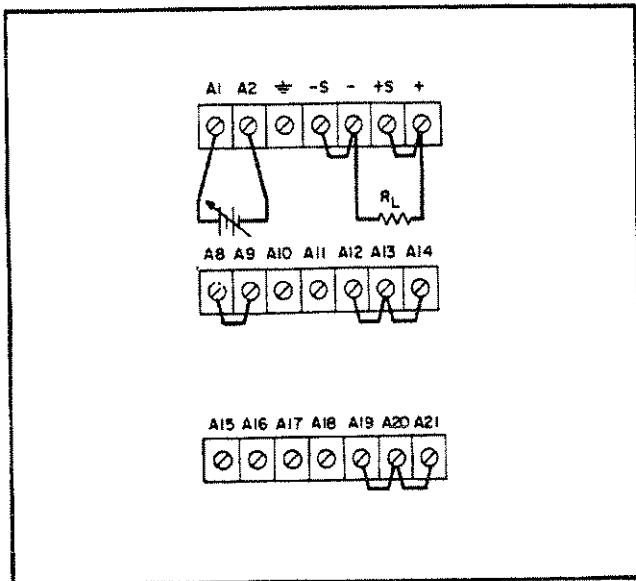

Figure 3-7. Remote Voltage Programming, Constant Voltage
3-50 **Variable Gain Amplifier.** AC signals or a dc level (positive or negative) can be amplified or attenuated in the variable gain amplifier mode. Figure 3-7 shows a variable dc level (programming voltage) applied to the input terminals A1 (HI IN) and A2 (LO IN). Since the BPS/A is non-inverting in the variable gain amplifier mode, a positive input (A1 positive, A2 negative) results in a positive output and a
negative input (A1 negative, A2 positive) results in a negative output. The other connections on Figure 3-7 are shown for local control using front panel controls, however, remote control using external controls may also be employed. The front panel or remote voltage controls can be used to attenuate or amplify the input as required. With the front panel VOLTAGE control or remote programming resistor set for maximum output, the programming coefficient is as follows:
**3-51 Fixed Gain Amplifier.** AC signals up to 40kHz or a dc level (positive or negative) can be amplified in the fixed gain amplifier mode. Figure 3-7 shows a variable dc level (programming voltage) applied to the HI (A1) and LO (A2) input terminals. Since the BPS/A provides an inverted output in the fixed gain amplifier mode, a positive input (A1 positive, A2 negative) results in a negative output and a negative input (A1 negative, A2 positive) results in a positive output. The front panel or remote programming voltage controls are not applicable in this mode. The programming coefficient in the fixed gain amplifier mode is as follows: